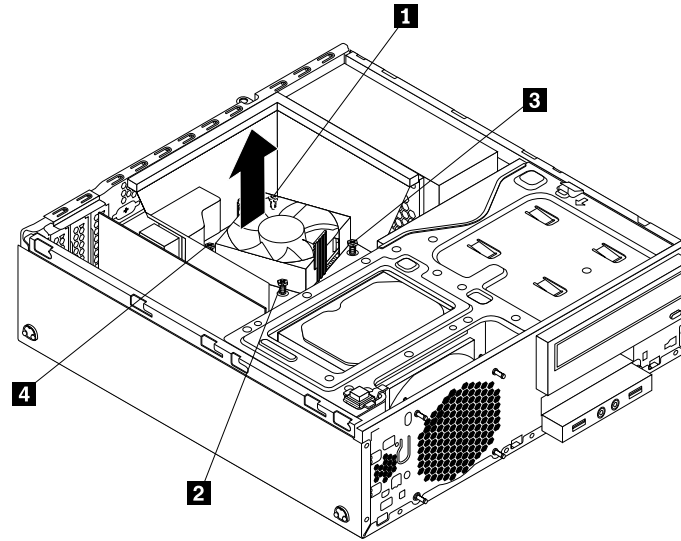

Figure 60. Screws that secure the heat sink and fan assembly
8. Follow this sequence to install the four screws to secure the new heat sink and fan assembly, as shown in Figure 60 “Screws that secure the heat sink and fan assembly” on page 63: